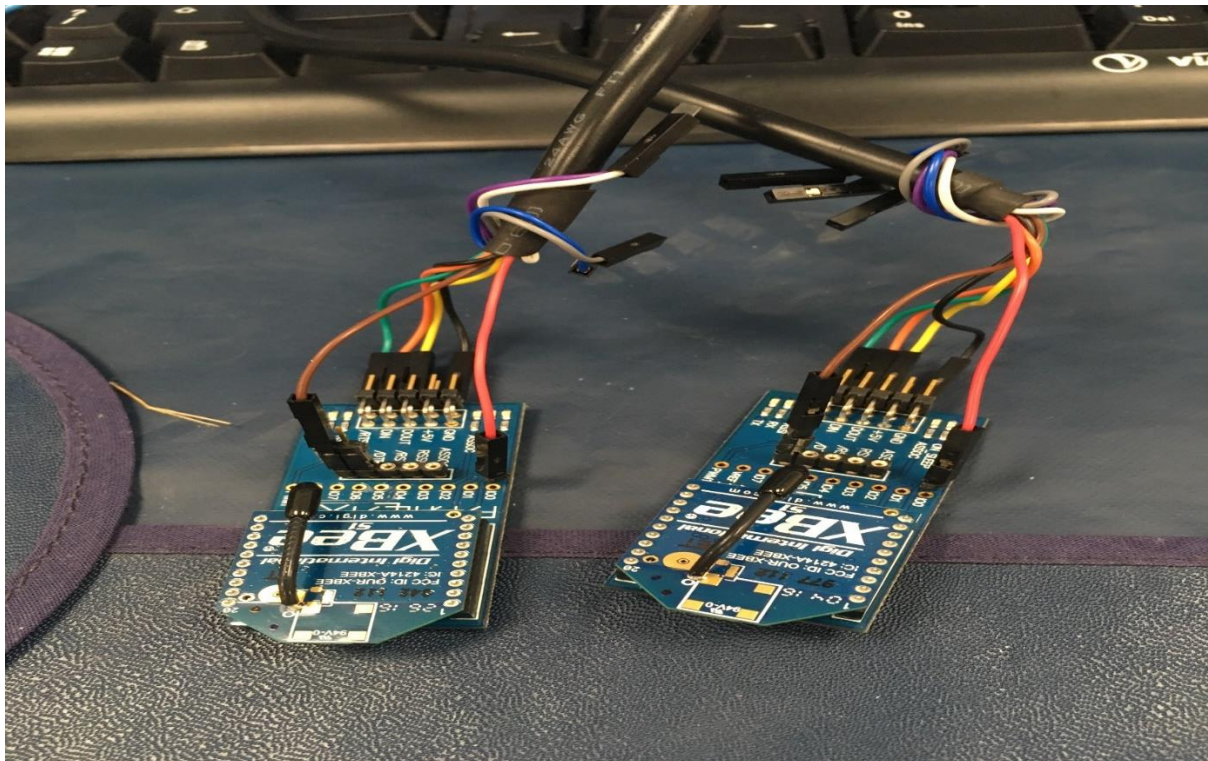
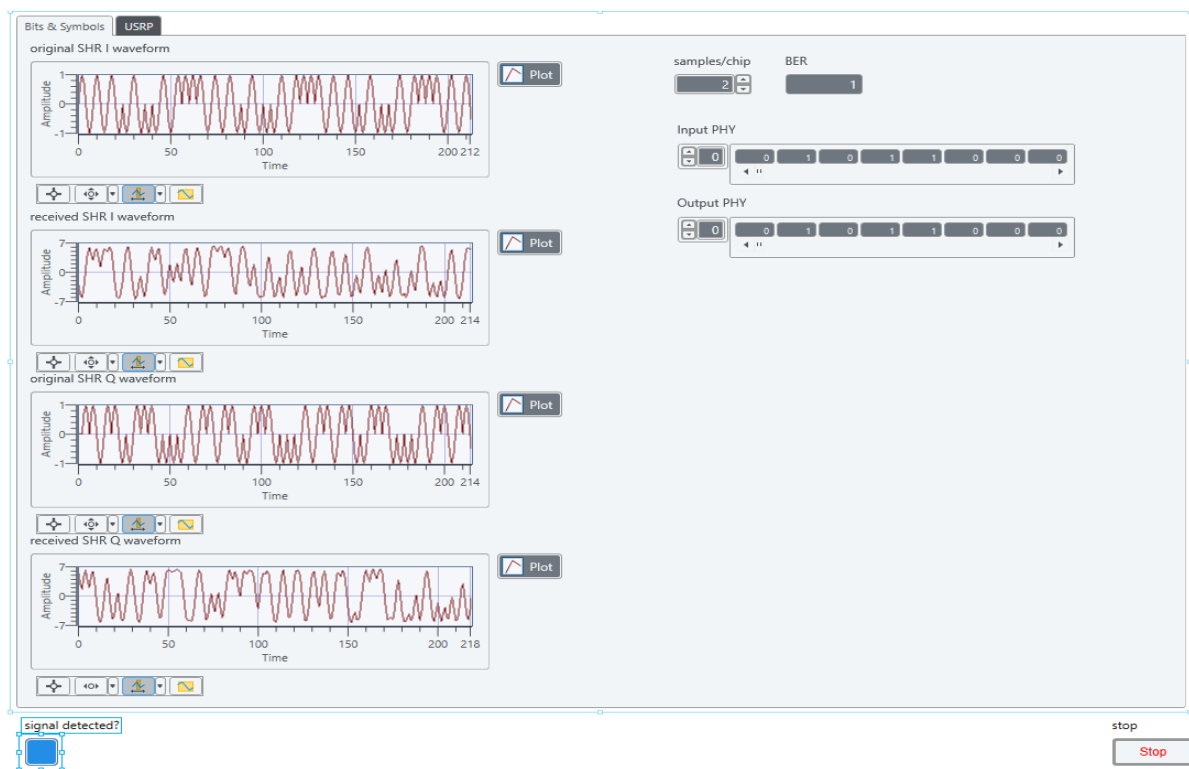

Figure 25. XBee set-up.
Figure 29. Receiver detection of the communication between the XBee device.
Figure 25 shows the set-up of the connection between the XBee devices and the PC. The modules are connected to the PC via FTDI cables (1). The FTDI cables have 10 wires for serial connection each serving a different purpose. For this project, only 6 of them are needed:
**By inspecting Figure 29, it can be seen that the receiver module successfully detects the communication between the two XBees from Figure 25. The signal detection button lights up and waveform samples are obtained. However, the data obtained is not the correct representation of the transmission due to the fact that the carrier offset frequency between the USRP device and the XBees is too high which leads to high BER results.**